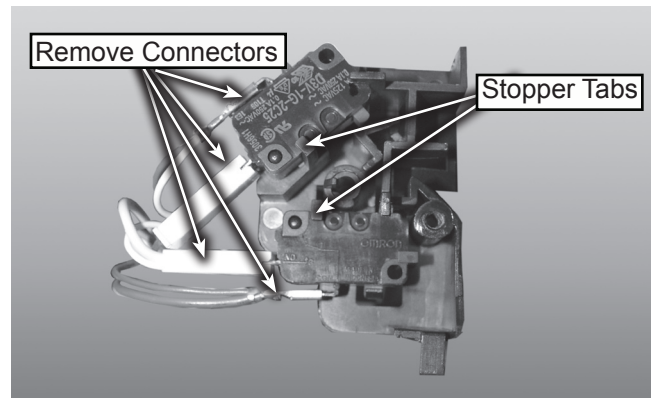

Figure 2
7. Remove each switch from the latch hook by pushing the stopper tabs holding each switch, see figure 2.